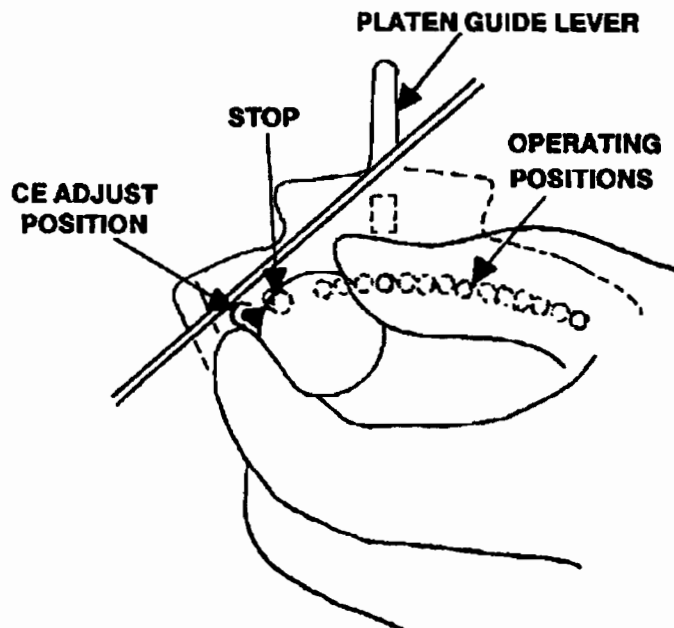

Figure 17. Platen Handle in CE Adjust Position
- e. Place the handle in the CE adjust position, engaging the plunger rod to hold it (see Figure 17).